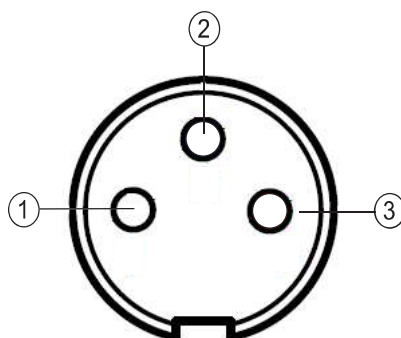

Figure 3-28: Print Trigger 1 Connector Pin Diagram
**Note:** Figure 3-28 represents the view of the connector from the back of the printer.